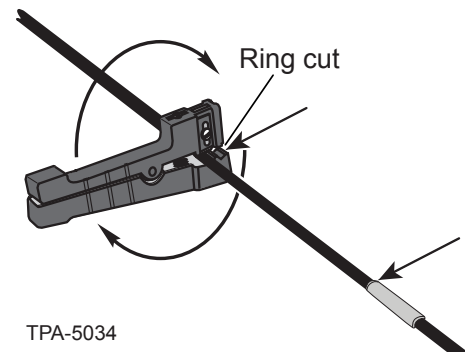

Figure 14
- Step 1:** Use the Ideal® tool to make the first ring cut at one of the tape marks (Figure 14).